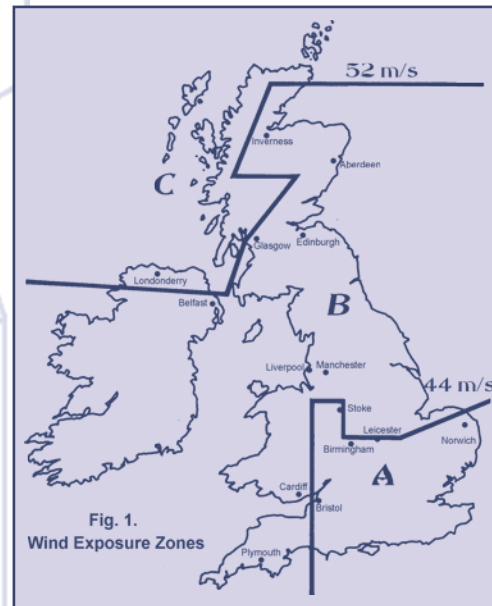

Fig. 1.
C.P. 3 Chapter V, Part 2, 1972 and amended in 1986, describes a wind exposure chart which is reproduced in Figure 1.